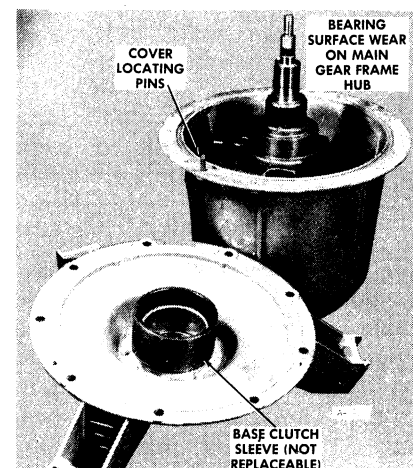

Figure 88
4. Carefully lift bottom plate from transmission housing. Try to salvage the gasket, Figure 88.
5. Remove items 4 and 5, the agitate spring and hub. If the spring is broken or the hub scored badly,